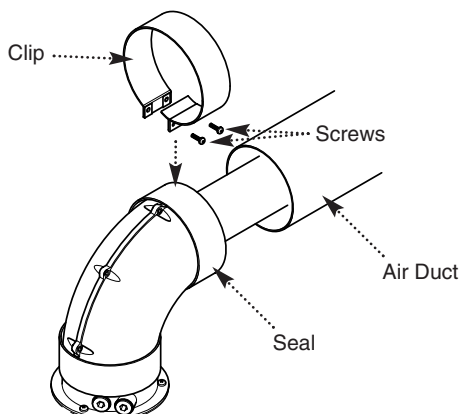

Fig. 23
12. Draw the air duct out of the wall and align it with the elbow. Position the seal so that it equally covers the joint (Fig. 23).
13. Remove the screws from the second clip provided. Prise the clip apart and fit it over the seal. Refit the screws to the clip and tighten them (Fig. 23).